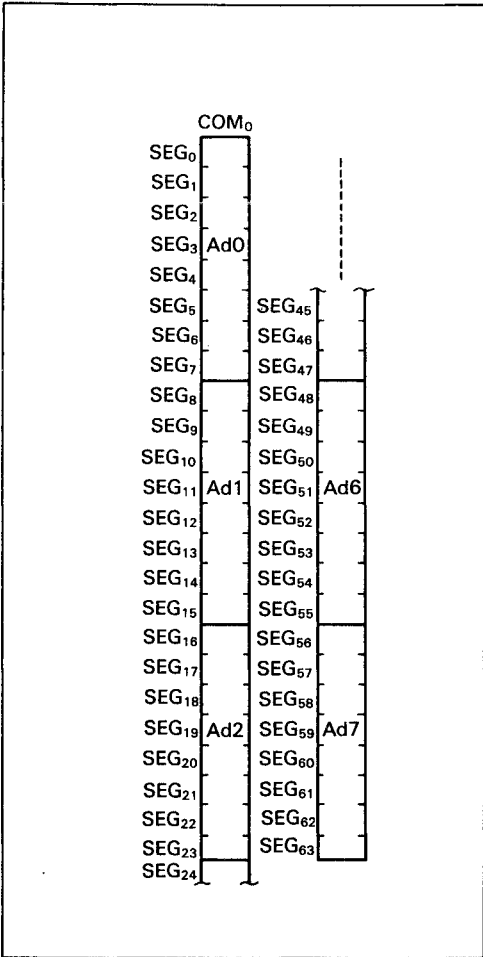
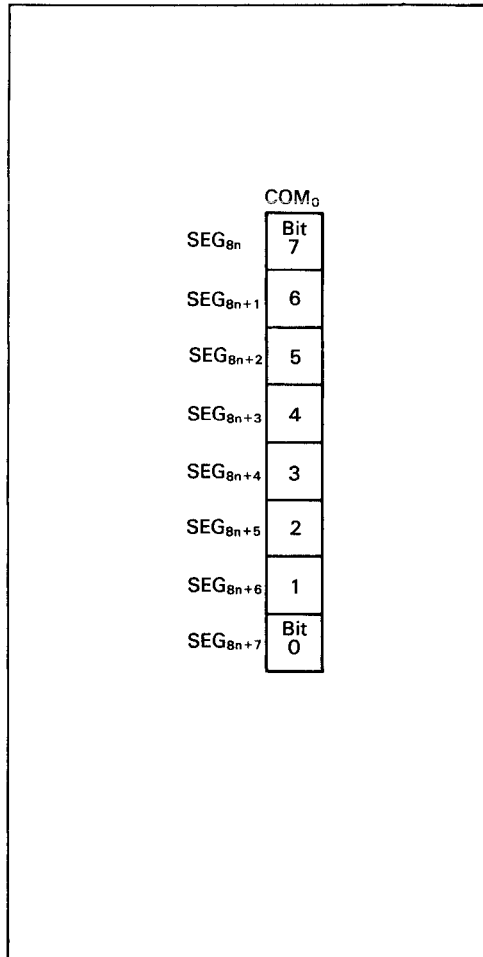

Figure 12. Allocation of Digit (HD61605)
Figure 13. Bit Assignment in an Ad_n (HD 61605)
The 8-bit data is written on a digit basis into the digit address (displayed as Adn) shown in figure 12. When data is transferred from a microcomputer, four 4-bit data are needed to specify the digit address and an 8-bit display data. Figure 13 shows the correspondence between each segment in an Adn and the transferred 8-bit data.
- Display address: Digit address Adn shown in figure 12.
- Display data: Pattern data written into the display RAM as shown in figure 13.
- (2) **Bit Manipulation Data:** Updates display on a segment basis.